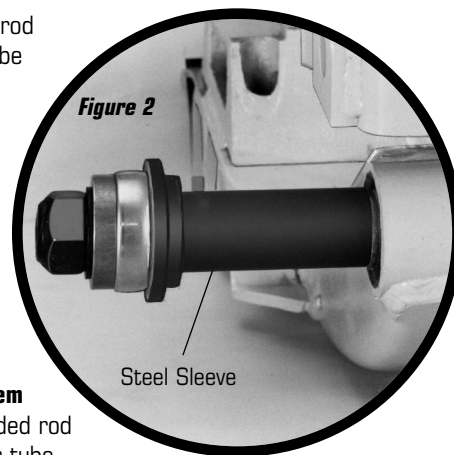

Figure 2
5. Position steel sleeve (Item 9) on threaded rod (Item 6) (Figure 2).